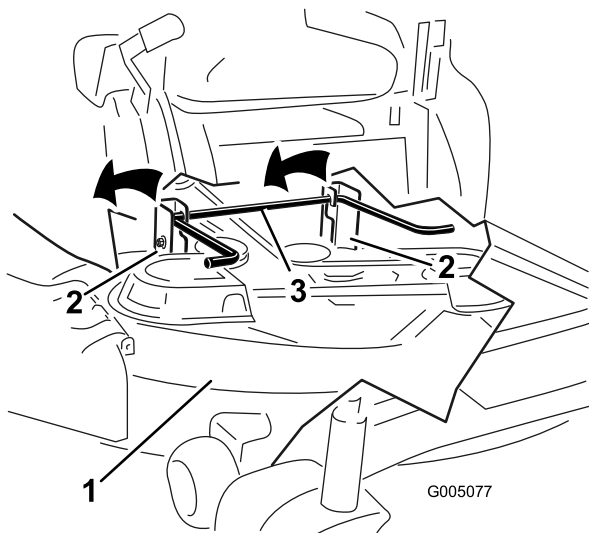

Figure 59
5. Lift the mower deck and hanger brackets clear of the rear lift rod and lower the mower carefully to the ground (Figure 59).
5. Lift the rear of the mower deck and guide the hanger brackets over the rear lift rod (Figure 59).